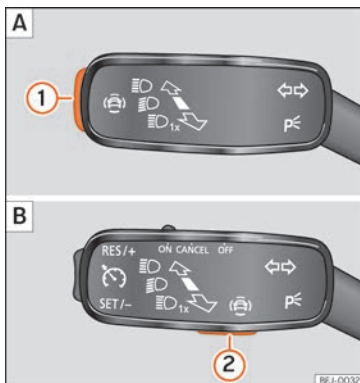

Fig. 115 On the turn light and main beam lever: key for driver assistance systems (depending on the version).
- Press »» Fig. 115 **1** or **2** briefly to open the **Driving aids** menu.